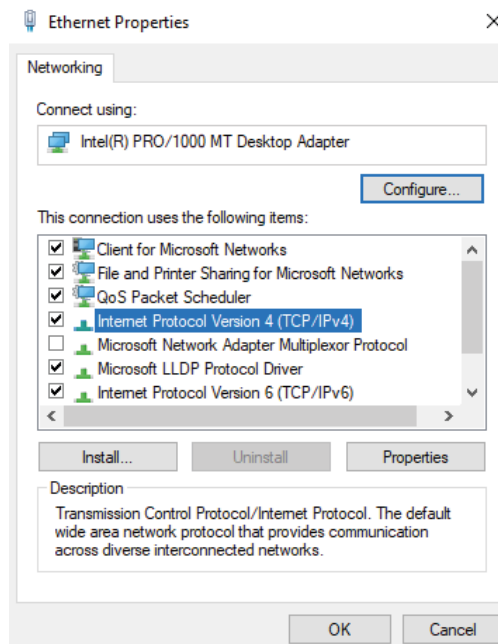

Fig.3
4.4. Search for „Internet protocol version 4 (TCP/IPv4)” in the opened list, select it and press „Properties” button (Fig.3).